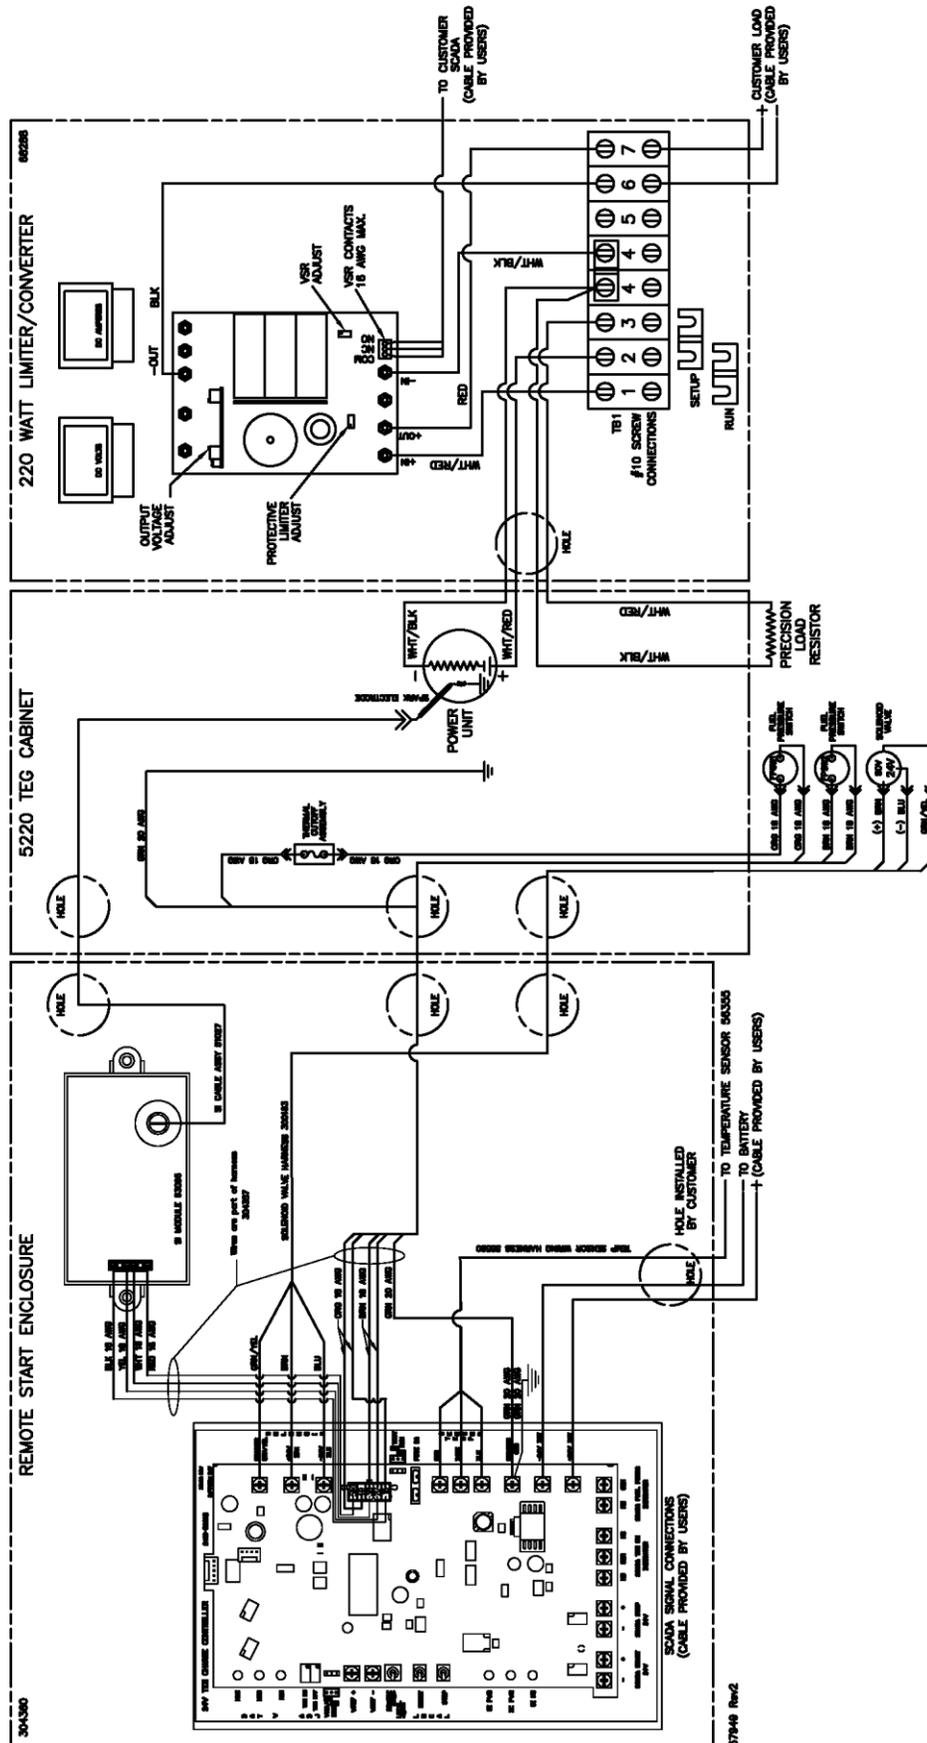

Figure 42 - 24V Remote Start 5220 System Wiring Diagram
- Configure the TEG electronics to be in SETUP mode by moving the jumper clip on TB1 so that it connects terminals 2 and 3. See Figure 41 or Figure 42.
- The Spark Ignition (SI) system should begin clicking and fuel will start flowing after one second, and the sound of combustion can be heard within 7 seconds. If the burner does not ignite, the SI will wait 10 seconds to attempt a second ignition trial. If the second trial is unsuccessful, the system will wait a further 10 seconds to attempt a third ignition trial. After the third unsuccessful trial, the ignition control system will go into lockout mode.
- Refer to sections 7, 8, 2.3 and 2.4 to tune the TEG to required V_{set} and put the TEG into operating mode: jumper clip on terminal block TB1 in RUN position so that it connects terminals 1 and 2 (see Figure 41 or Figure 42). Keep a record in the log.
In addition to INSTALLATION for standard 5220 TEG described in section 5, refer to wiring diagram Figure 41 or Figure 42, complete additional installations for model 5220-RS TEG.